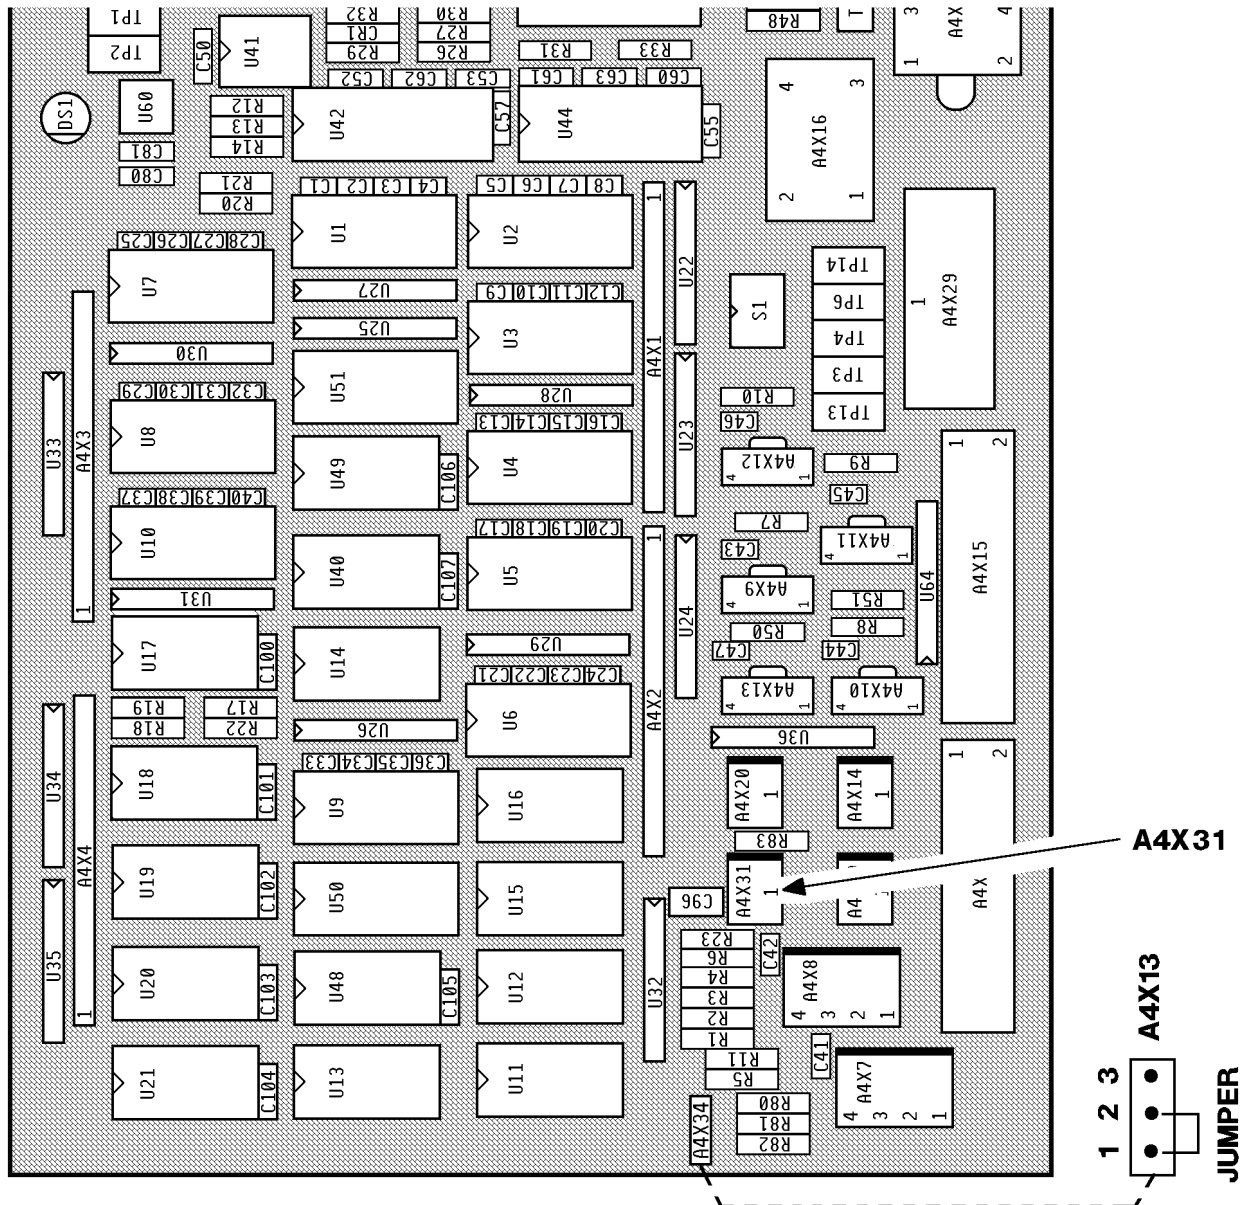

figure 3-4
12. Connect the HARNESS CONNECTOR A4X31 to the SOCKET A4X31 on PCB A4. Fig. 3-4.